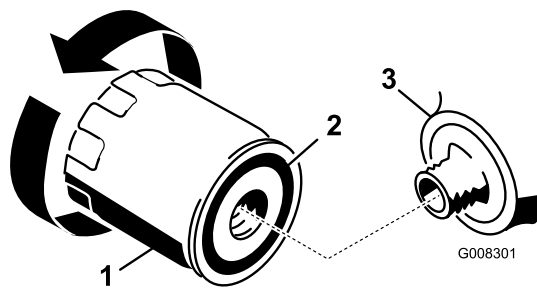

Figure 24
2. Remove the old filter and wipe off the adapter gasket surface (Figure 24).
3. Apply a thin coat of new engine oil to the rubber gasket on the new filter (Figure 24).
5. Tighten the filter an additional 1/2 to 3/4 turn (Figure 24).